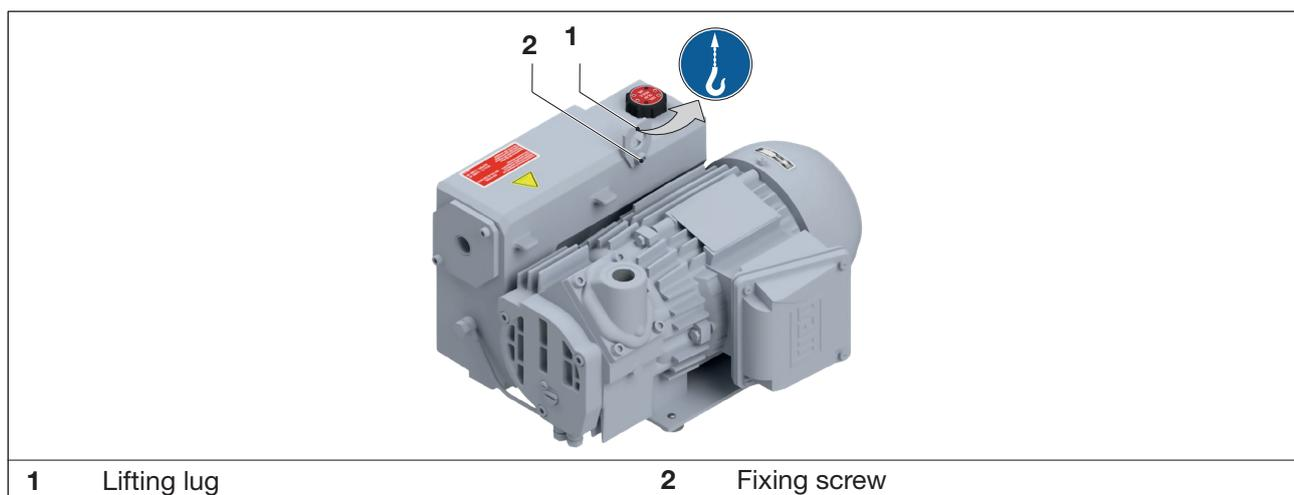

Fig. 1 Load handling equipment for lifting and transporting
- b) Tightly fasten the fixing screw (Fig. 1/2) on the transportation lashing (Fig. 1/1).
- c) For lifting of the pump, hook it in the transportation lashing (Fig. 1/1) using lifting gear.